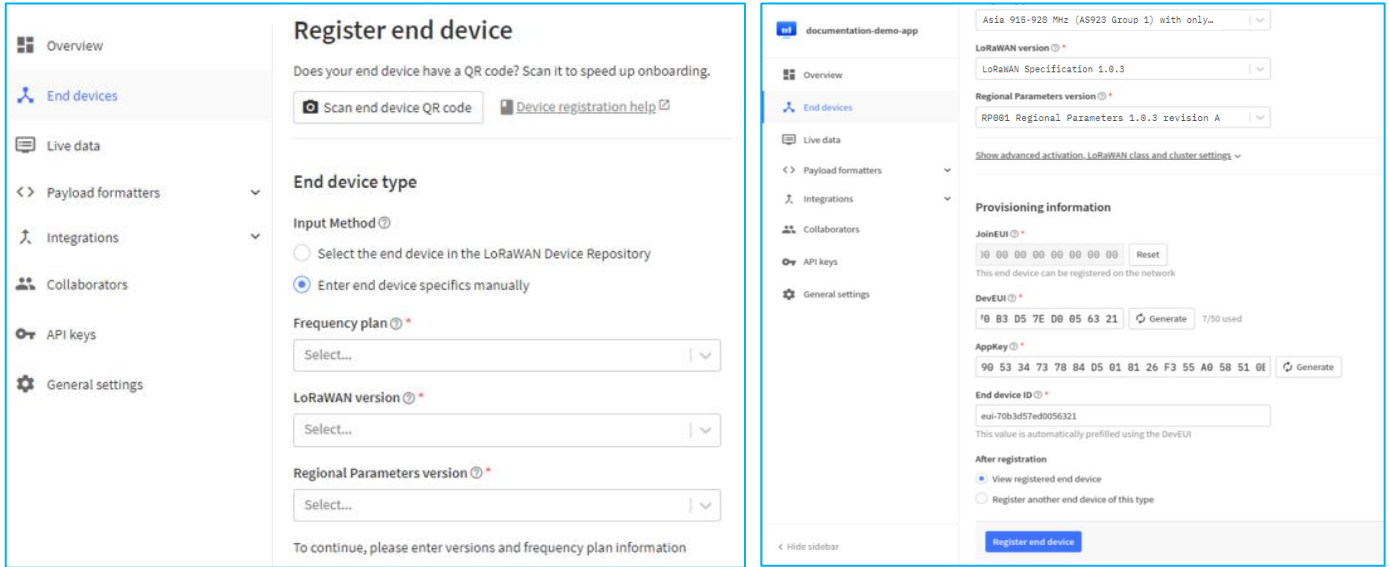

Figure 6: Register SGW2828-EVK on TTN console by manually adding
4. Click Enter end device specifics manually and select the following (Figure 6):